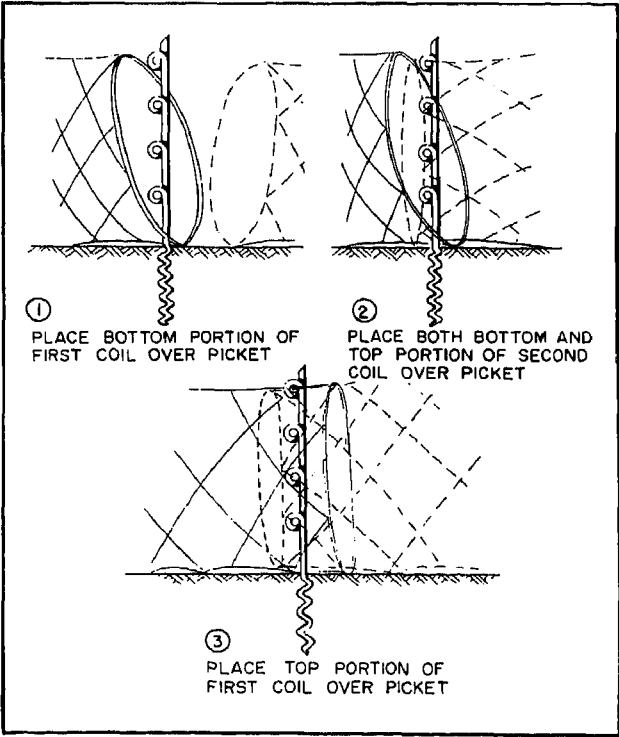

Figure 9-53.—Joining concertina.
2. Lift each front row concertina in turn and drop it over the long pickets, then join concertina ends as shown in figure 9-53.